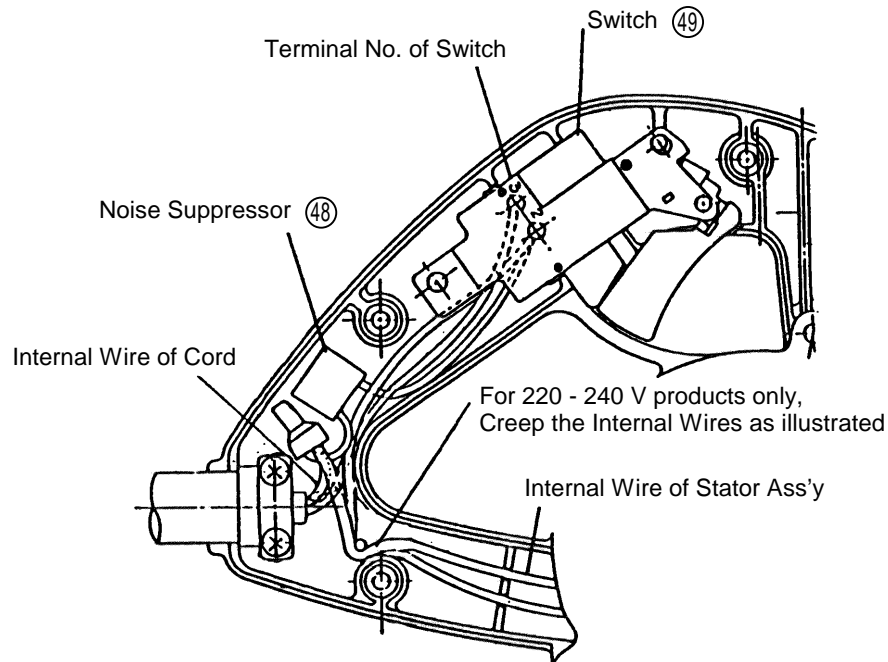

Fig. 6
(6) Internal Wire Arrangement (See Figs. 6 and 7):
Connect internal wires as illustrated in Figs. 6 and 7.
(NOTE) The internal wire arrangement for models without a Noise Suppressor (48) is the same as that in Fig. 6 with the exception of the noise suppressor.